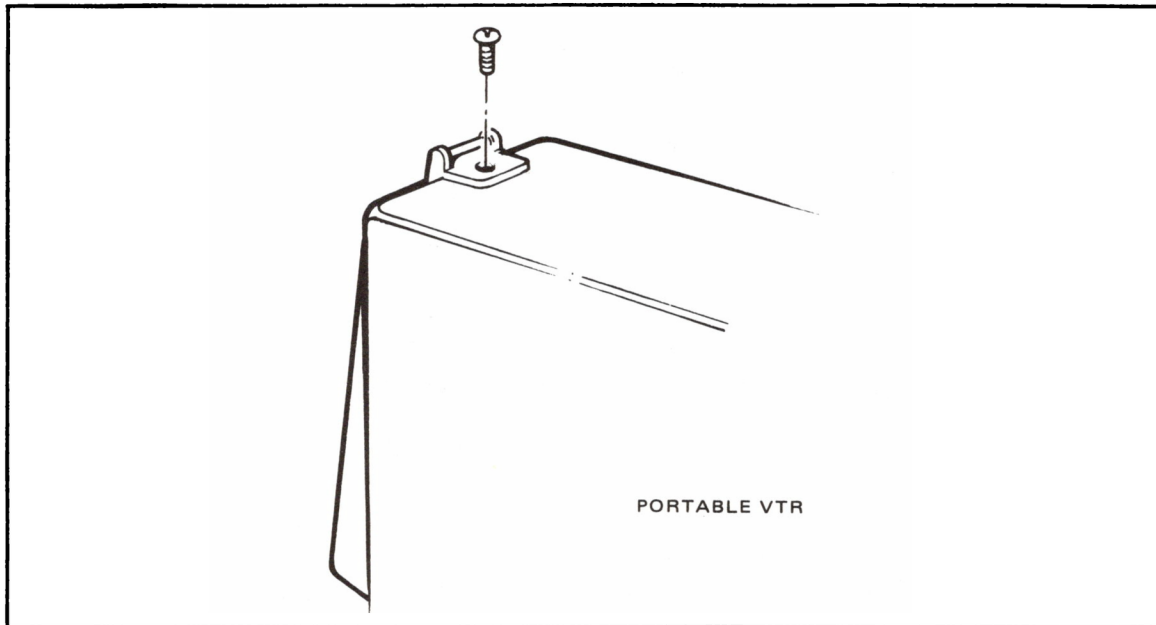

Figure 2-8. Attaching Strap Mount Fixture to VTR
STEP 1 Attach strap mount fixture to VTR. See Figure 2-8.